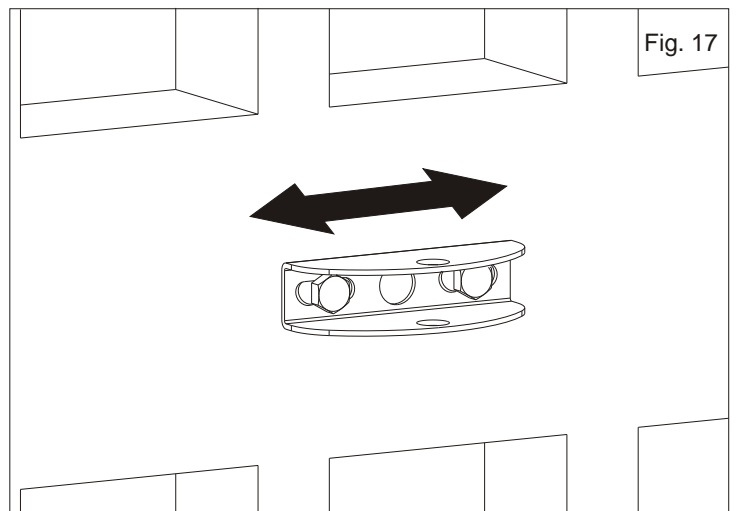

Fig. 17
- Before tightening the screws move the front bracket to the right or to the left for a good positioning of the arm on the gate (Fig. 17) respecting the measure D in Fig. 8.